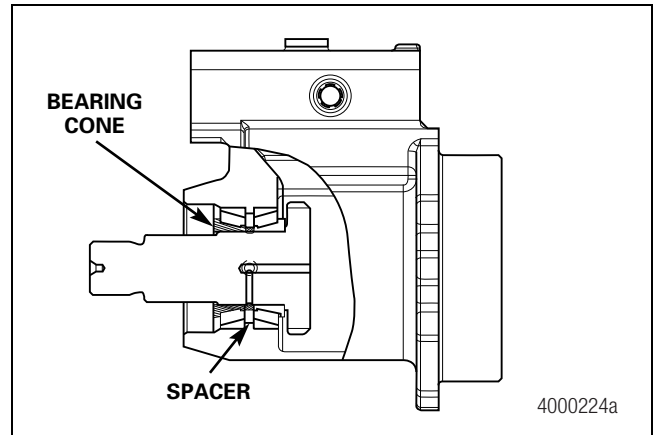

Figure 7.10
- D. With the bearing spacer in position, the second bearing cone can be heated to 200°F (93°C) and installed onto the shaft. Figure 7.10.